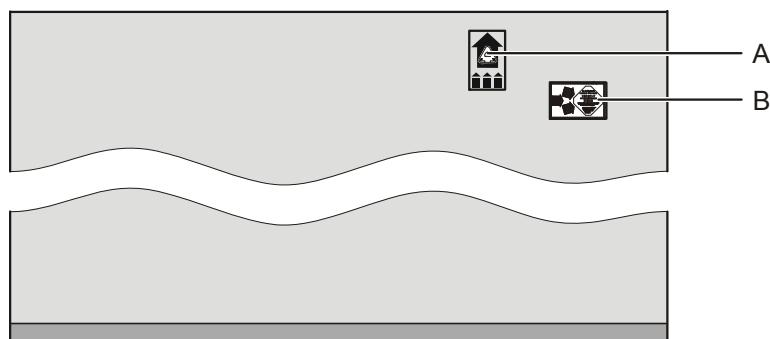

Figure 156: Long side of packed laser device
11. Affix 3D-Tilt indicators (see Figure 156, A) to a long and a short side of the transport packaging.
12. Affix Shockwatch indicators (see Figure 156, B) to each side of the rigid transport packaging.